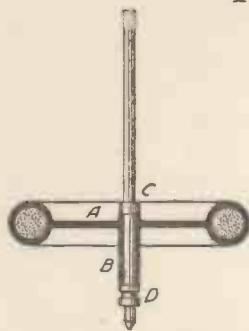

Fig. 1.—A Sectional View of the Top.
**T**HE top shown in sectional view in Fig. 1 is made up from scrap without the use of a lathe. The small eye of a curtain ring to which the curtain hook is hitched is removed, and a  $\frac{3}{16}$  in. hole drilled. The ring is then set upright in sand, and molten type metal should be poured into it until it is filled to overflowing.